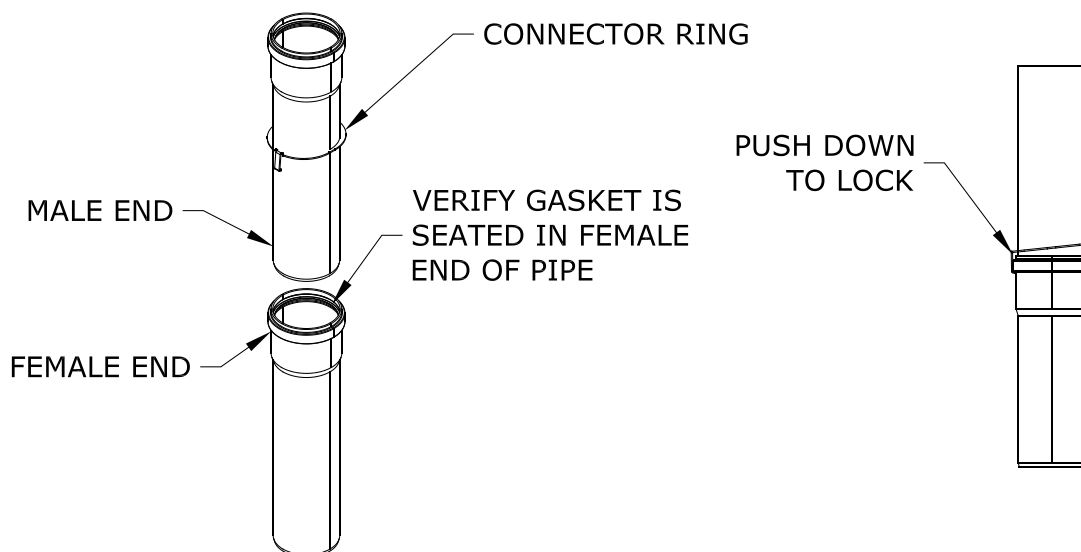

Figure 7.44: InnoFlue Connector Ring Installation
- c. For each joint, verify that the gasket is evenly seated in the bell (female) end of the pipe. Lubricate this gasket with Centrocerin # IACE50. Slide a connector ring over the male end of the pipe to be joined as shown in Figure 7.44. Push the male end of the next section of pipe into the bell until it bottoms out, then back out 1/4" to provide room for thermal expansion. Push hook on connecting ring over the bell end of the first section of pipe as shown in Figure 7.44.